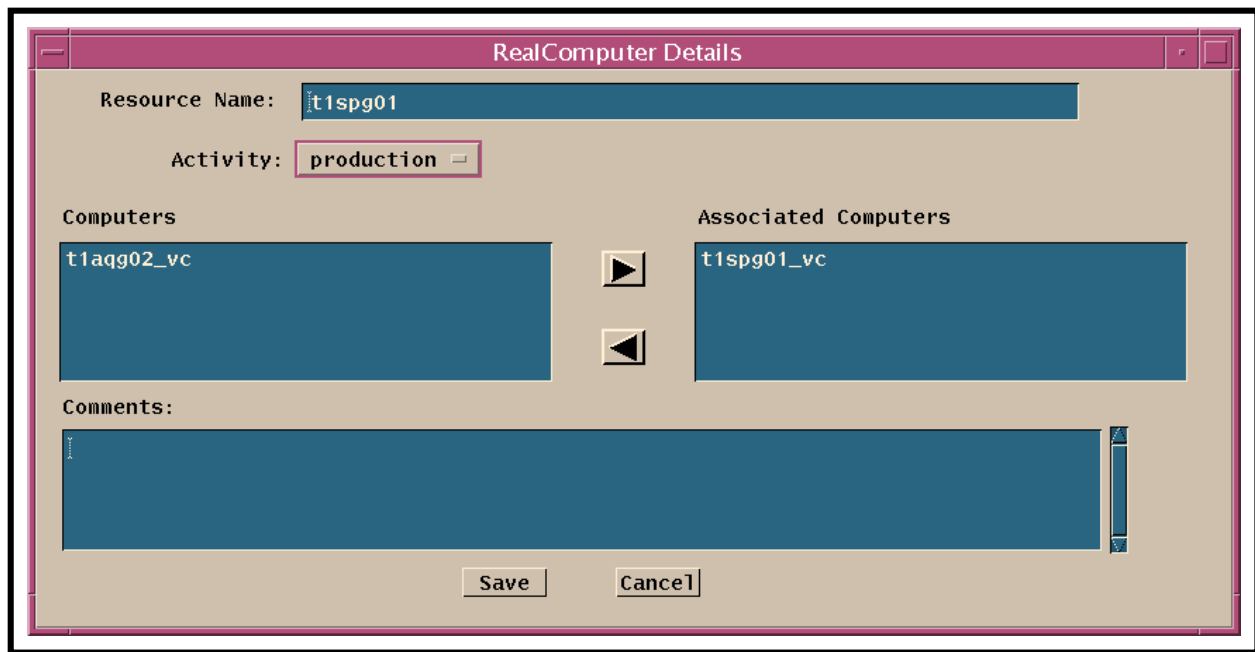

Figure 12. Real Computer Details GUI
- The **Real Computer Details** GUI displayed when the **New...** button on the **Resource Editor** GUI is clicked is similar to the **Real Computer Details** GUI (Figure 12) that is displayed when the **Modify...** button on the **Resource Editor** GUI is clicked.